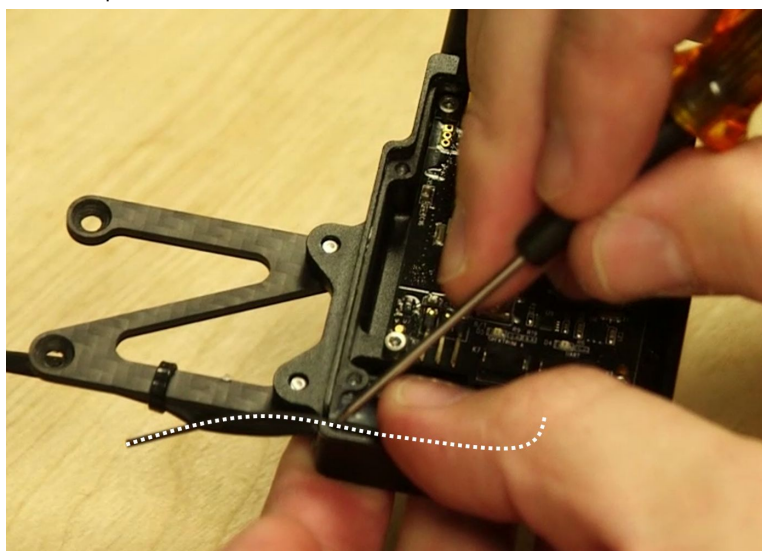

Figure 6: New WiFi antenna routing
**Step 8:** Apply a thin bead of silicone sealant to the lip of the GPS module where the cover plate attaches (see Figure 6).